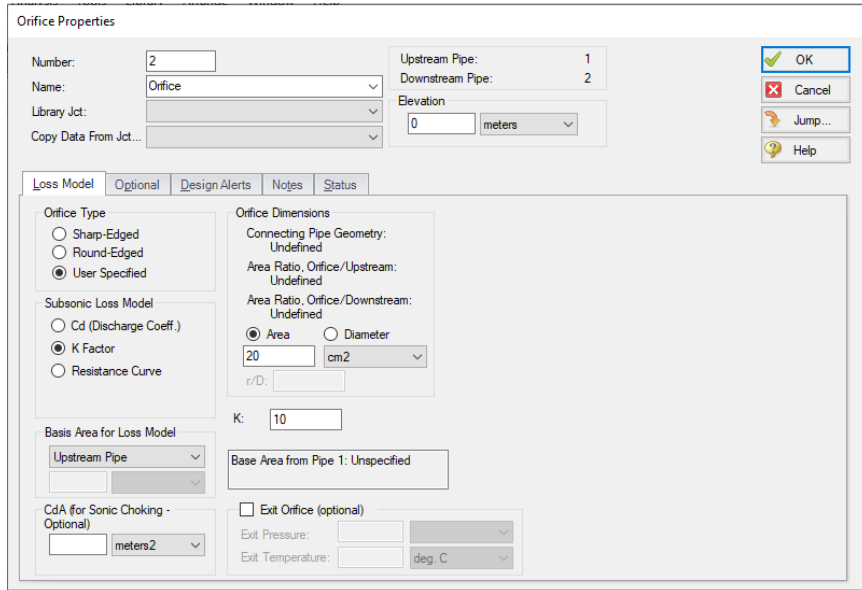

Figure 2.10 Properties window for the J2 Orifice
- **Next, open the Properties window for the J2 Orifice junction.** Enter the Orifice Type as User Specified, the Subsonic Loss Model as K Factor, $K = 10$, and the elevation as 0 meters (see Figure 2.10). Click OK to close the window.